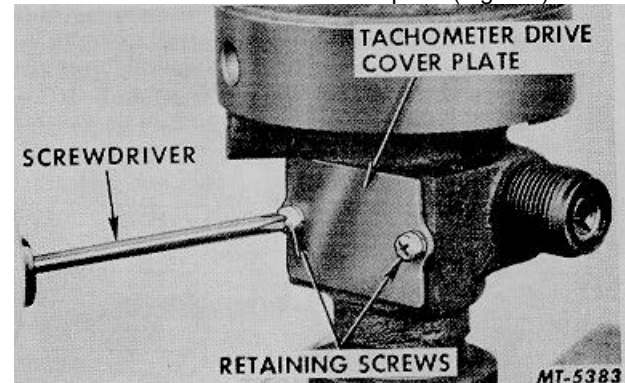

Fig. 31 Removing Tachometer Drive Cover Plate
- a. Remove tachometer drive cover plate (Fig. 31).